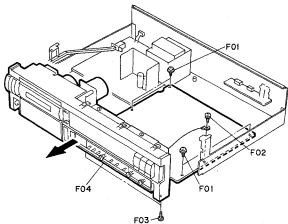
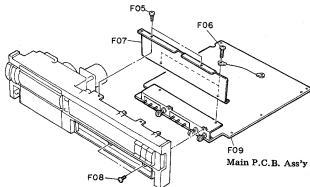

Fig. 2.5.1
Fig. 2.5.2
Refer to FIG. 2.5.1 and 2.5.2.
- (1) Remove the Front Panel Ass'y referring to item 2.4.
- (2) Loosen screws F01 (4 pcs.), F02 (1 pc.) and F03 (2 pcs.). See Fig. 2.5.1.
- (3) Slide out F04 (Front Chassis Ass'y & Main P.C.B. Ass'y) forward.
- (4) Loosen screws F05 (2 pcs.) and F06 (2 pcs.), and remove F07 (Shield Plate). See Fig. 2.5.2.
- (5) Loosen screws F08 (2 pcs.) and remove F09 (Main P.C.B. Ass'y).